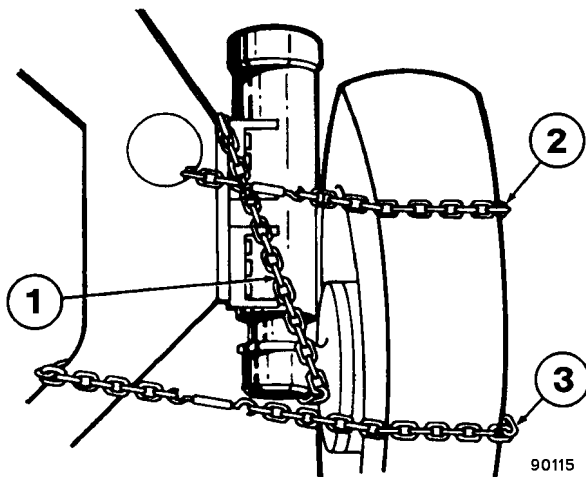

FIGURE 3-10. WHEEL SUPPORT CHAIN INSTALLATION
NOTE: *The placement of binder chains (2 & 3, Figure 3-10) is necessary anytime that the retainer plate (8, Figure 3-3) is removed in the following procedure. These binders must be tight enough to prevent the wheel hub from moving out and dislocating the floating seal assembly (16). An additional chain (1, Figure 3-10) may be installed to prevent full extension of the suspension cylinder when the truck is raised off the ground.*
4. Wrap a chain and chain binder (2, Figure 3-10) around the top half of the tire. Secure chain through the frame. Chain should be tightened enough to prevent movement during bearing adjustment procedure when the retainer plate is removed.
5. Install another chain (3) around the bottom half of the tire and tighten enough to prevent movement during bearing adjustment procedure.
9. Remove tire retaining chains (2 & 3, Figure 3-10).